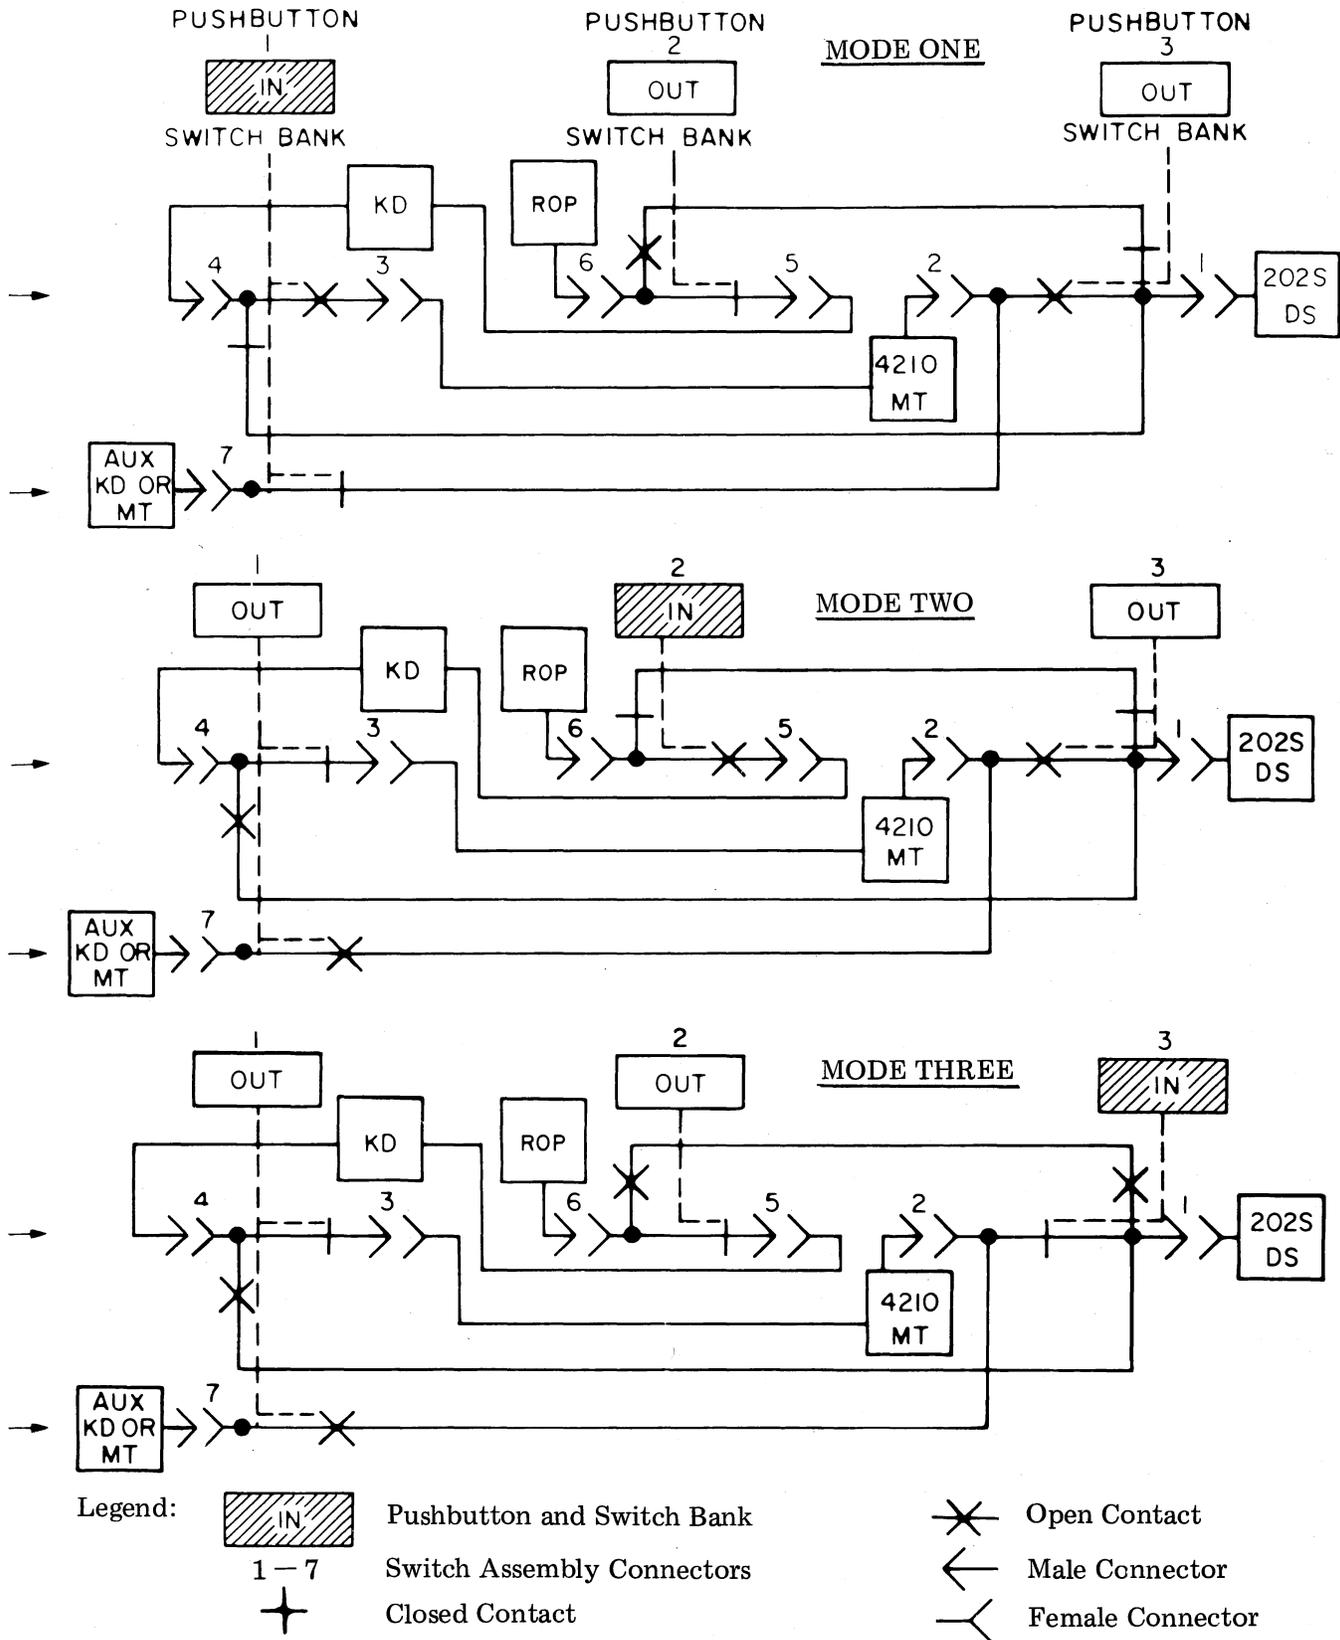

Fig. 2—Basic Switch Configuration With Three Interconnecting Modes
1.04 Other data equipment may be interconnected with the switch assembly, but interface arrangements must be resolved before the switch assembly is connected to any terminal. This is particularly important due to design features built into the circuitry. (See Table B.) Fig. 2 illustrates one practical switch application.
- 3.01 The DATASPEED EIA switch assembly changes station operating modes without interchanging station equipment cables. The following information shows how the switches connect DATASPEED station equipment in the three operating modes (shown in Fig. 2 and 9).